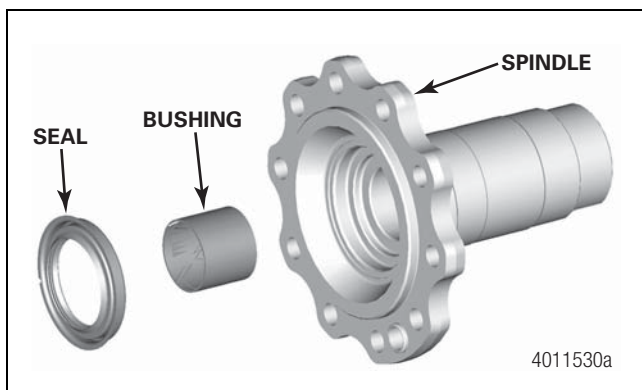

Figure 7.11
5. If disassembled, use the correct size drivers to install the bushing and grease seal into the spindle. Refer to Section 12 for tool specifications. Figure 7.11.